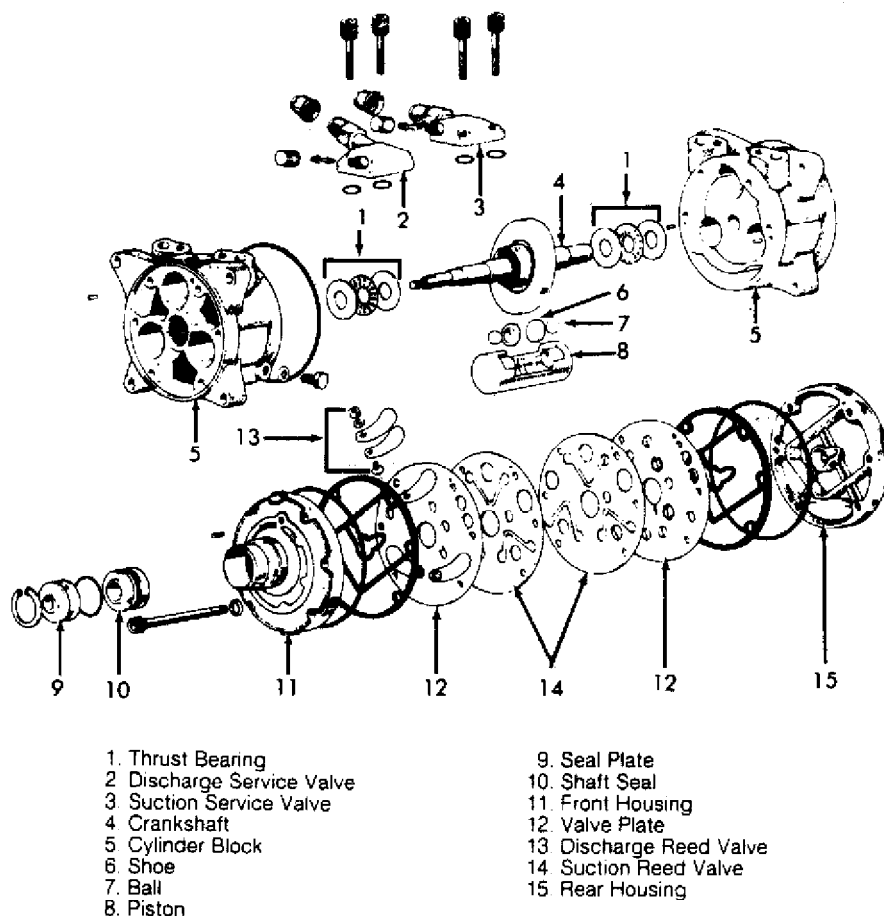

Fig. 14: Nippondenso 6-Cylinder Compressor
- 5) Remove 6 through bolts from front head of compressor and discard washers. Tap head loose from compressor; be careful not to scratch sealing surfaces. remove snap ring (if equipped) from front housing. Press seal plate out. Remove seal from shaft. See Fig. 14.